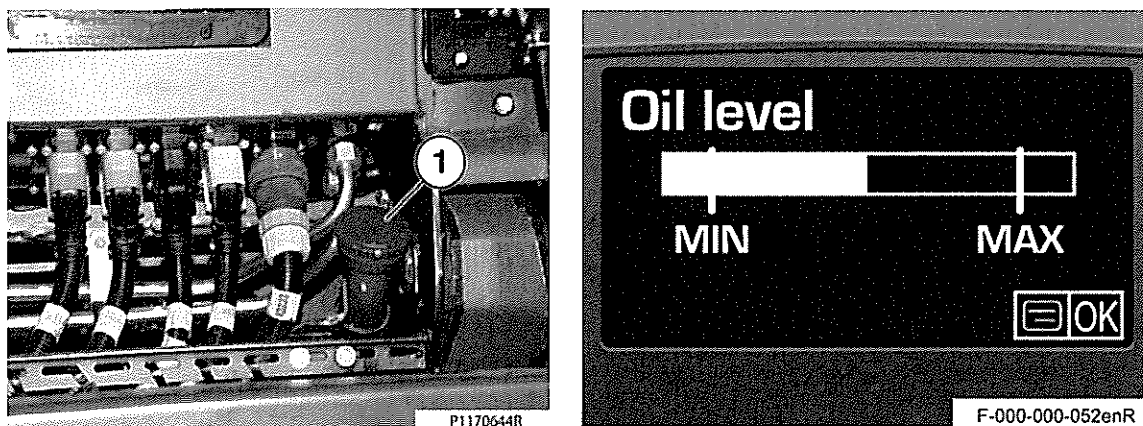

Fig 50 Top up the engine oil
123 Refer to Fig 50. Replenish the engine with the required quantity and specification of oil, using the oil filler (1) behind the front service flap.